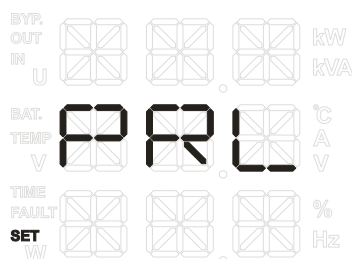

Figure4-3 PRL mode
**PRL** setting page: when the parallel UPS has been set to single mode and it needs to set to parallel mode, enter this setting page, the **PRL** flickers. If you confirm to select the setting, press **①** (ON) button more than 1s, exit the setting page, the setting succeeds. If you do not confirm to select the setting, 20s later, it will exit the setting page automatically. Corresponding LCD display is as shown in Figure4-3.